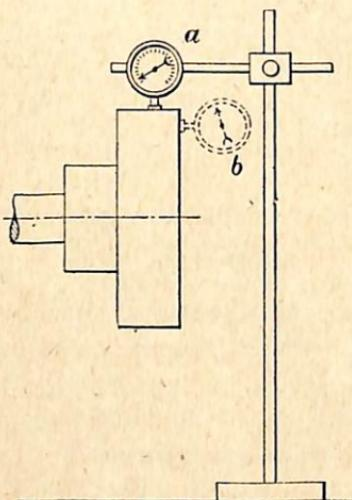
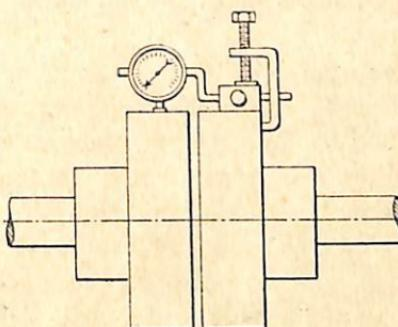

Fig. 3.—Checking truth of single half-coupling with dial indicator. (a) periphery; (b) face
Fig. 4.—Checking concentricity of two half-couplings with dial indicator
1. Check each half-coupling separately, by mounting the indicator either upon a floor stand, or on a bracket clamped to the machine itself, so that the foot of the indicator touches the periphery of the coupling as shown in fig. 3, or on the other half-coupling (fig. 4). Rotate the machine by hand, and see that the reading is the same all round. Now check the coupling face, in a similar manner. If untrue, the complete shaft and coupling must be trued in a lathe. In the case of a very large machine, it may be possible to improvise a rest to hold a tool or portable grinder, and true up with the machine running.
3. To set the two couplings concentrically, fix a dial indicator to one coupling by a clamp (fig. 4), with its foot